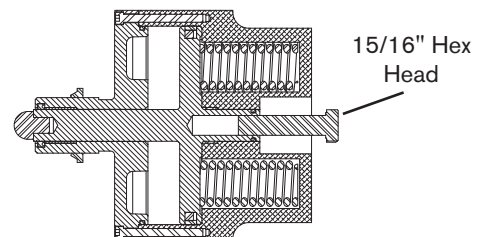

Figure 6c 60 PSI Actuator
- 2c. Using a 15/16 inch socket, turn the manual release bolt clockwise until snug to fully cage (compress) the spring. (Refer to Figure 6c)